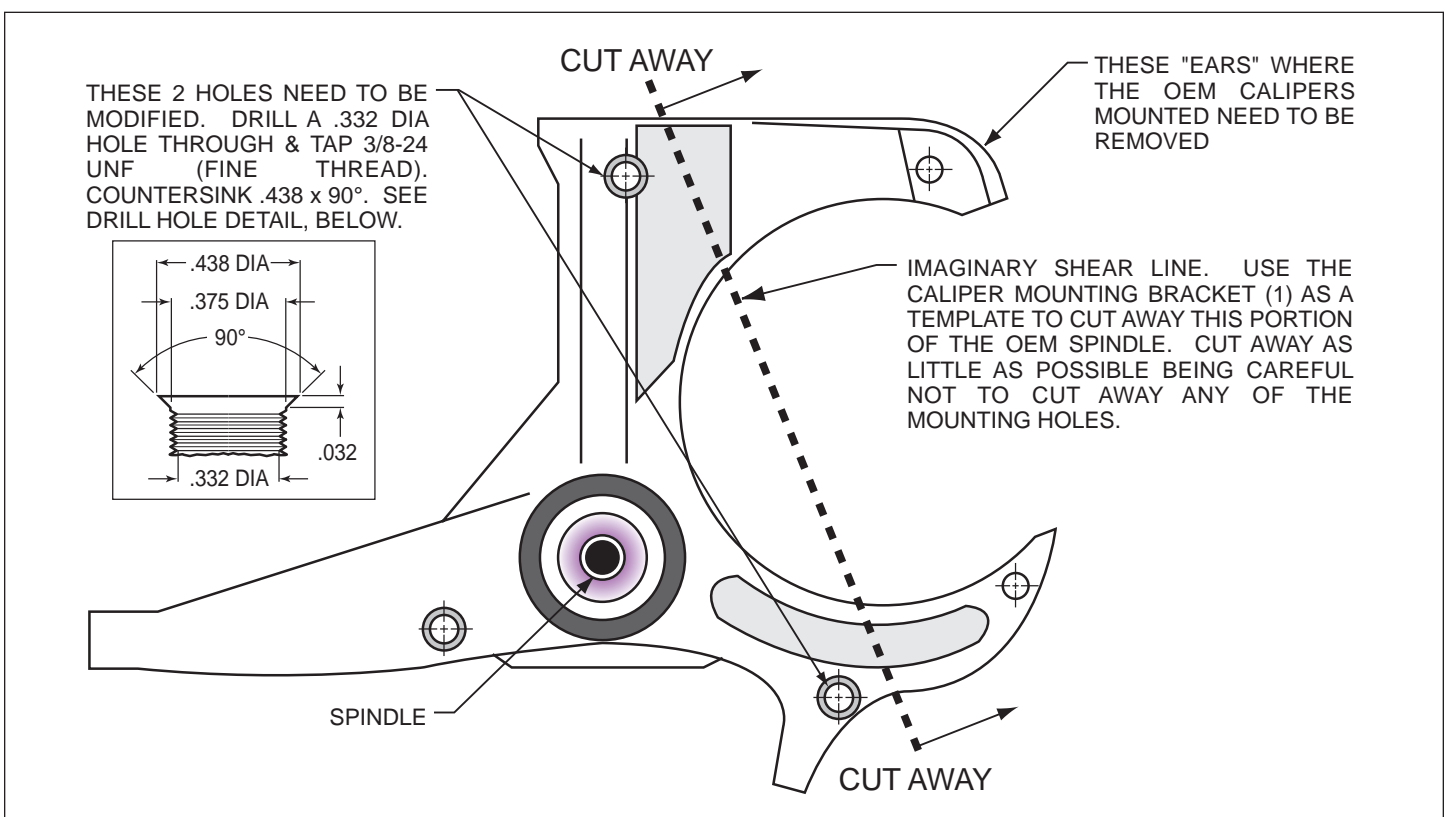

Figure 1. Steering Arm / Spindle Modifications
**NOTE:** These modifications should be performed by a qualified machinist and completed before assembly of the Wilwood disc brake kit begins. Refer to Figure 1 on the following page as necessary (numbers in parenthesis refer to the parts list on page three). Only one view of the steering arm/spindle is shown, but the modifications need to be performed on both steering arm/spindles.
The two OEM holes that will be used to mount the caliper mounting bracket (1) need to be modified. Drill a .332 diameter hole through both holes, Figure 1, then tap 3/8-24 UNF (fine thread). Countersink the holes to .438 x 90°. The "ears" that protrude to form a "C" shape need to be removed to facilitate the installation of the Wilwood kit. Using the bracket as a template, mark two cut marks on the steering arm. Remove as little as necessary from the "C" shape, being careful not to cut away any of the mounting holes required to bolt on the bracket.